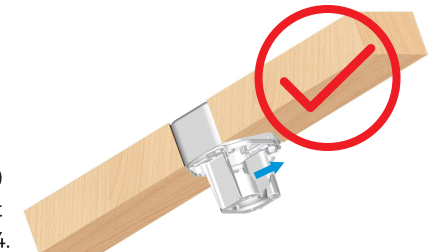

Fig. 6.4
1. When installing the mounting bracket, the bracket groove should be facing upward, as shown in Fig. 6.4.